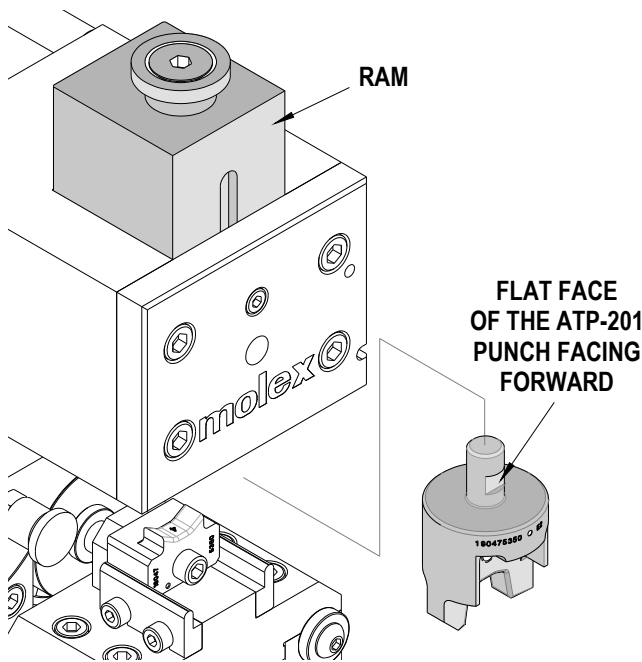

Figure 2-8
5. To install the punch assembly, orient the assembly so the flat on the round stub faces forward. Put the stub into the hole in the bottom of the ram and push the punch assembly up against the bottom of the ram. See Figure 2-8.